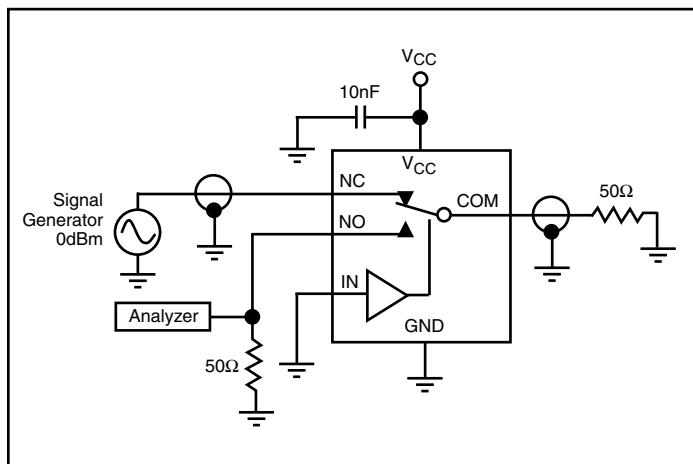

Figure 4. Crosstalk
7. Off Isolation = $20\log_{10} [V_{COM} / (V_{NO} \text{ or } V_{NC})]$. See Figure 4.